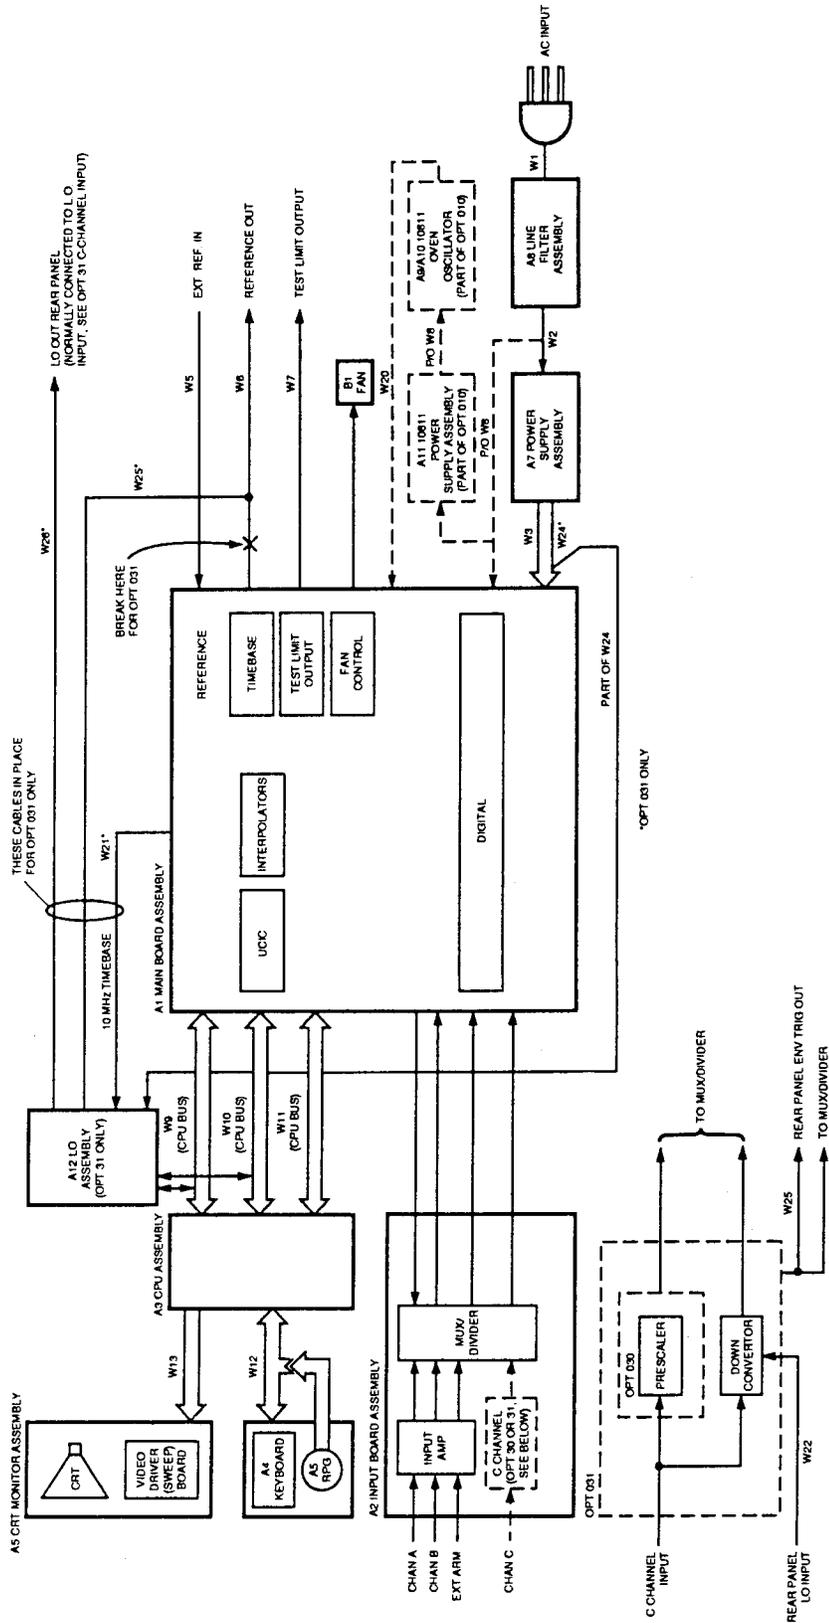

Figure 6-1. HP 53310A Simplified Overall Block Diagram
*Figure 6-1* is an overall block diagram of the HP 53310A Modulation Domain Analyzer that shows all the assemblies in the instrument. The three main assemblies are:
The A2 Input Board Assembly connects to the A1 Main Board. As shown in *Figure 6-1*, the A2 Input Board consists of three standard input connectors, an input amplifier circuit, a multiplexer/divider circuit, and an optional connector for C-Channel input amplifier (Option 030 and 031). Both Channels A and B can be selected for 50 $\Omega$  or 1M $\Omega$  input impedance; Channel A measures frequencies from 10 Hz to 200 MHz, and the Channel B input measures frequencies from 10 Hz to 100 MHz. The optional (030 or 031) Channel C input, with a 50 $\Omega$  input impedance only, extends the frequency range of the HP 53310A to 2.5 GHz. Option 030 uses prescaling for frequency extension. Option 031 has prescaling and mixer circuits to provide either prescaling or down conversion, and operates with the A12 LO Assembly in the down converter mode. The External Arm input is similar to the other channels, but provides only 1 M $\Omega$  of input impedance.